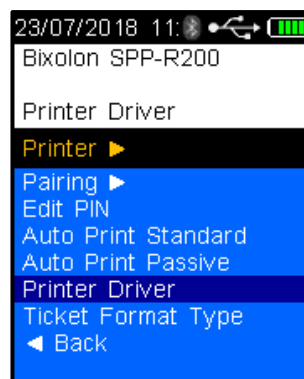

Figure 90 - Printer Driver Selected
- Press the Down button and scroll down to *Printer Driver* (Refer to Figure 90).